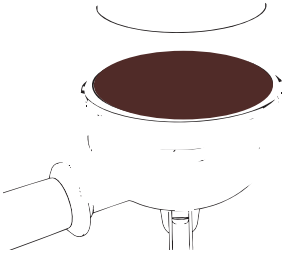

Figure 1
2.1 Distribute the ground coffee evenly in the filter basket. It is recommended to use 16 g of coffee for a single cup and 18 g for a double cup. After adding the coffee to the basket, use the tamper to press it down firmly until a flat and compact surface is formed, as shown in Figures 1–3.